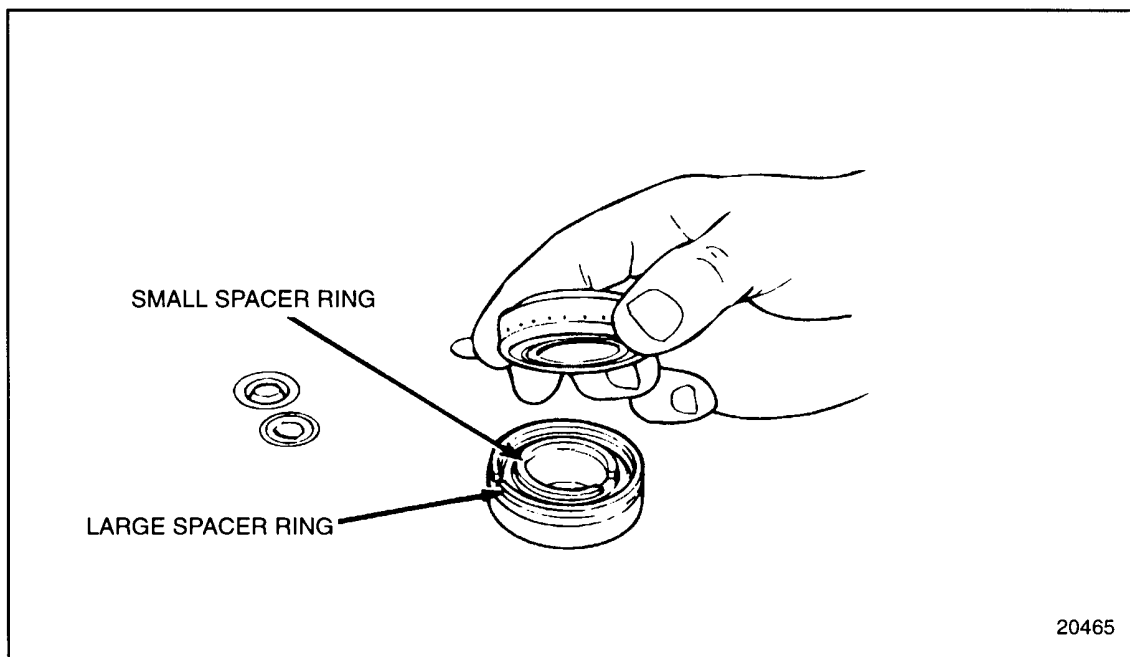

Figure 4-11 Bearing Pack Assembly
- [a] Place the small spacer ring on the inner bearing race. See Figure 4-11.